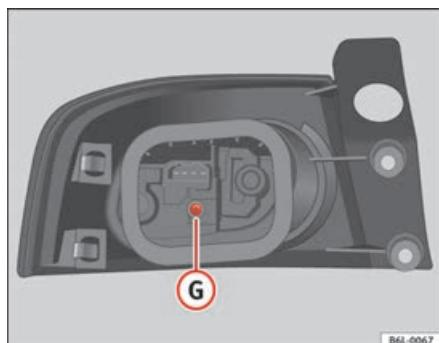

Fig. 167 Rear lights on bodywork
- Unscrew the bolt **G** ⇒ **fig. 167**.